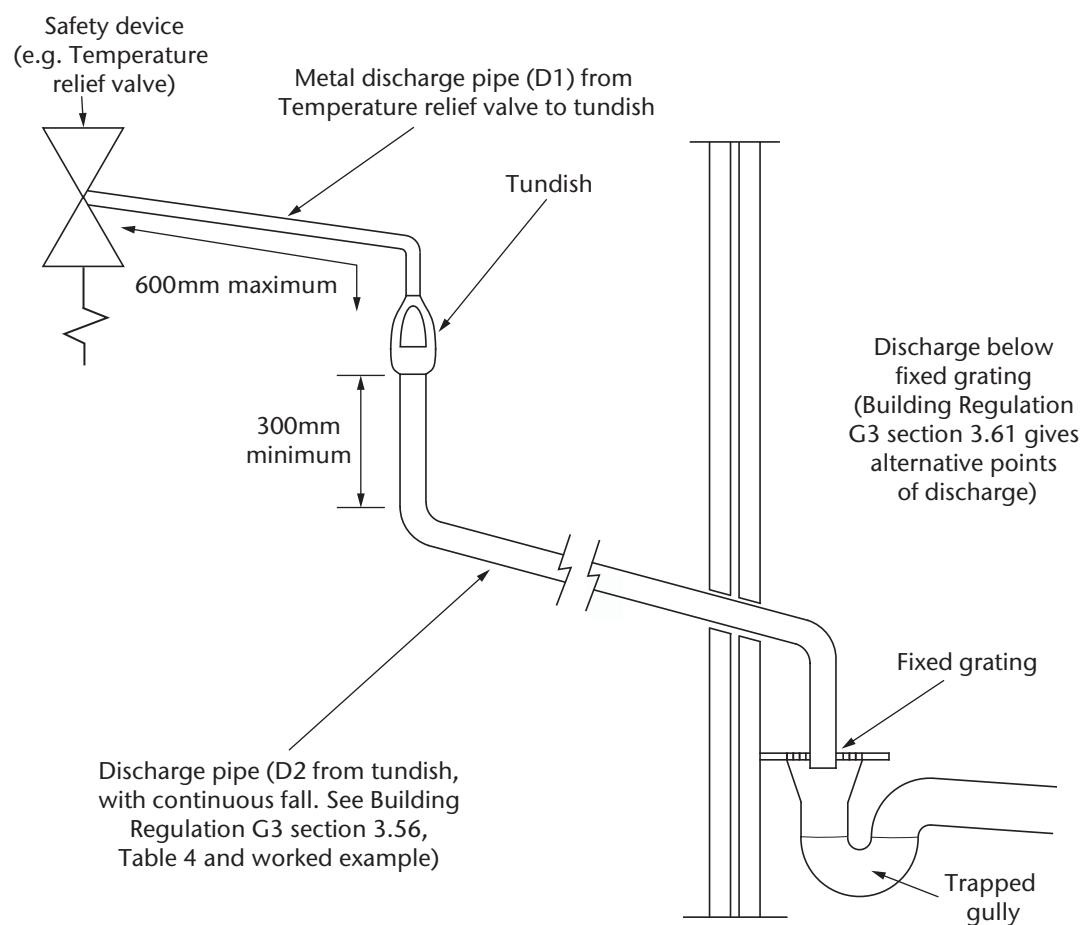

Figure 4 - Typical discharge pipe arrangement (extract from Building Regulations G3 Guidance Section)
- 3.54 The tundish should be vertical, located in the same space as the unvented hot water storage system and be fitted as close as possible to, and lower than, the valve, with no more than 600mm of pipe between the valve outlet and the tundish (Figure 4 & Table 4, page 10).
- (a) have a vertical section of pipe at least 300mm long below the tundish before any elbows or bends in the pipework (see Diagram 1, G3), (Fig. 4, page 10); and
- 3.58 The discharge pipe (D2) should be at least one pipe size larger than the nominal outlet size of the safety device unless its total equivalent hydraulic resistance exceeds that of a straight pipe 9m long, i.e. for discharge pipes between 9m and 18m the equivalent resistance length should be at least two sizes larger than the nominal outlet size of the safety device; between 18 and 27m at least 3 sizes larger, and so on; bends must be taken into account in calculating the flow resistance. (Fig. 4 & Table 4, page 10) and the worked example.